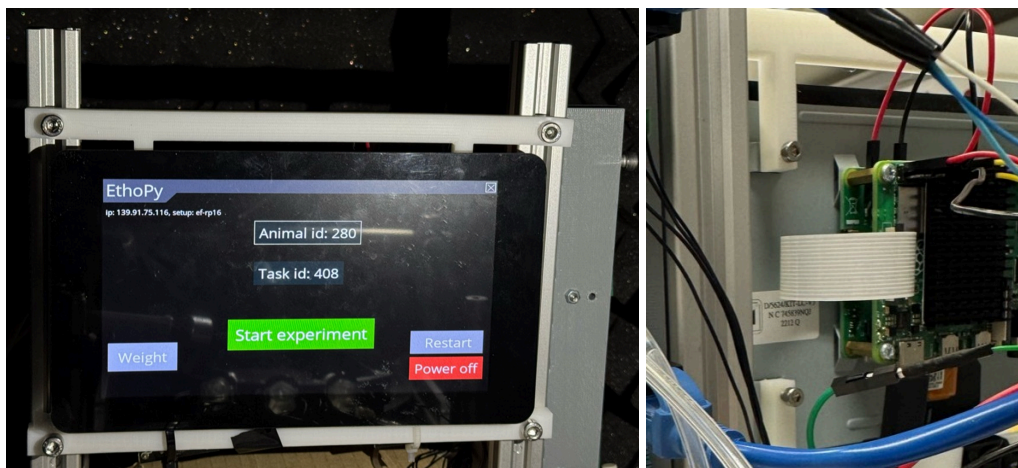

Figure 1: The RP behavioral setup, mounted on the aluminum rails of the air-table using the screen holders.
Step 3: Mount the Raspberry Pi Behavioral Setup on the screen holders (see 3D printed parts, part #1) in front of the air-table (Fig.1).